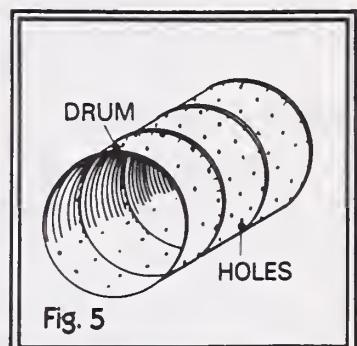

Fig. 5
2. Punch a series of holes (approximately 6 inches to 7 inches apart) around the surface of the drum (fig. 5). Now cut a circular opening in the drum large enough to receive the drainage pipe. The opening should be approximately 6 inches from one end of the drum (fig. 6).